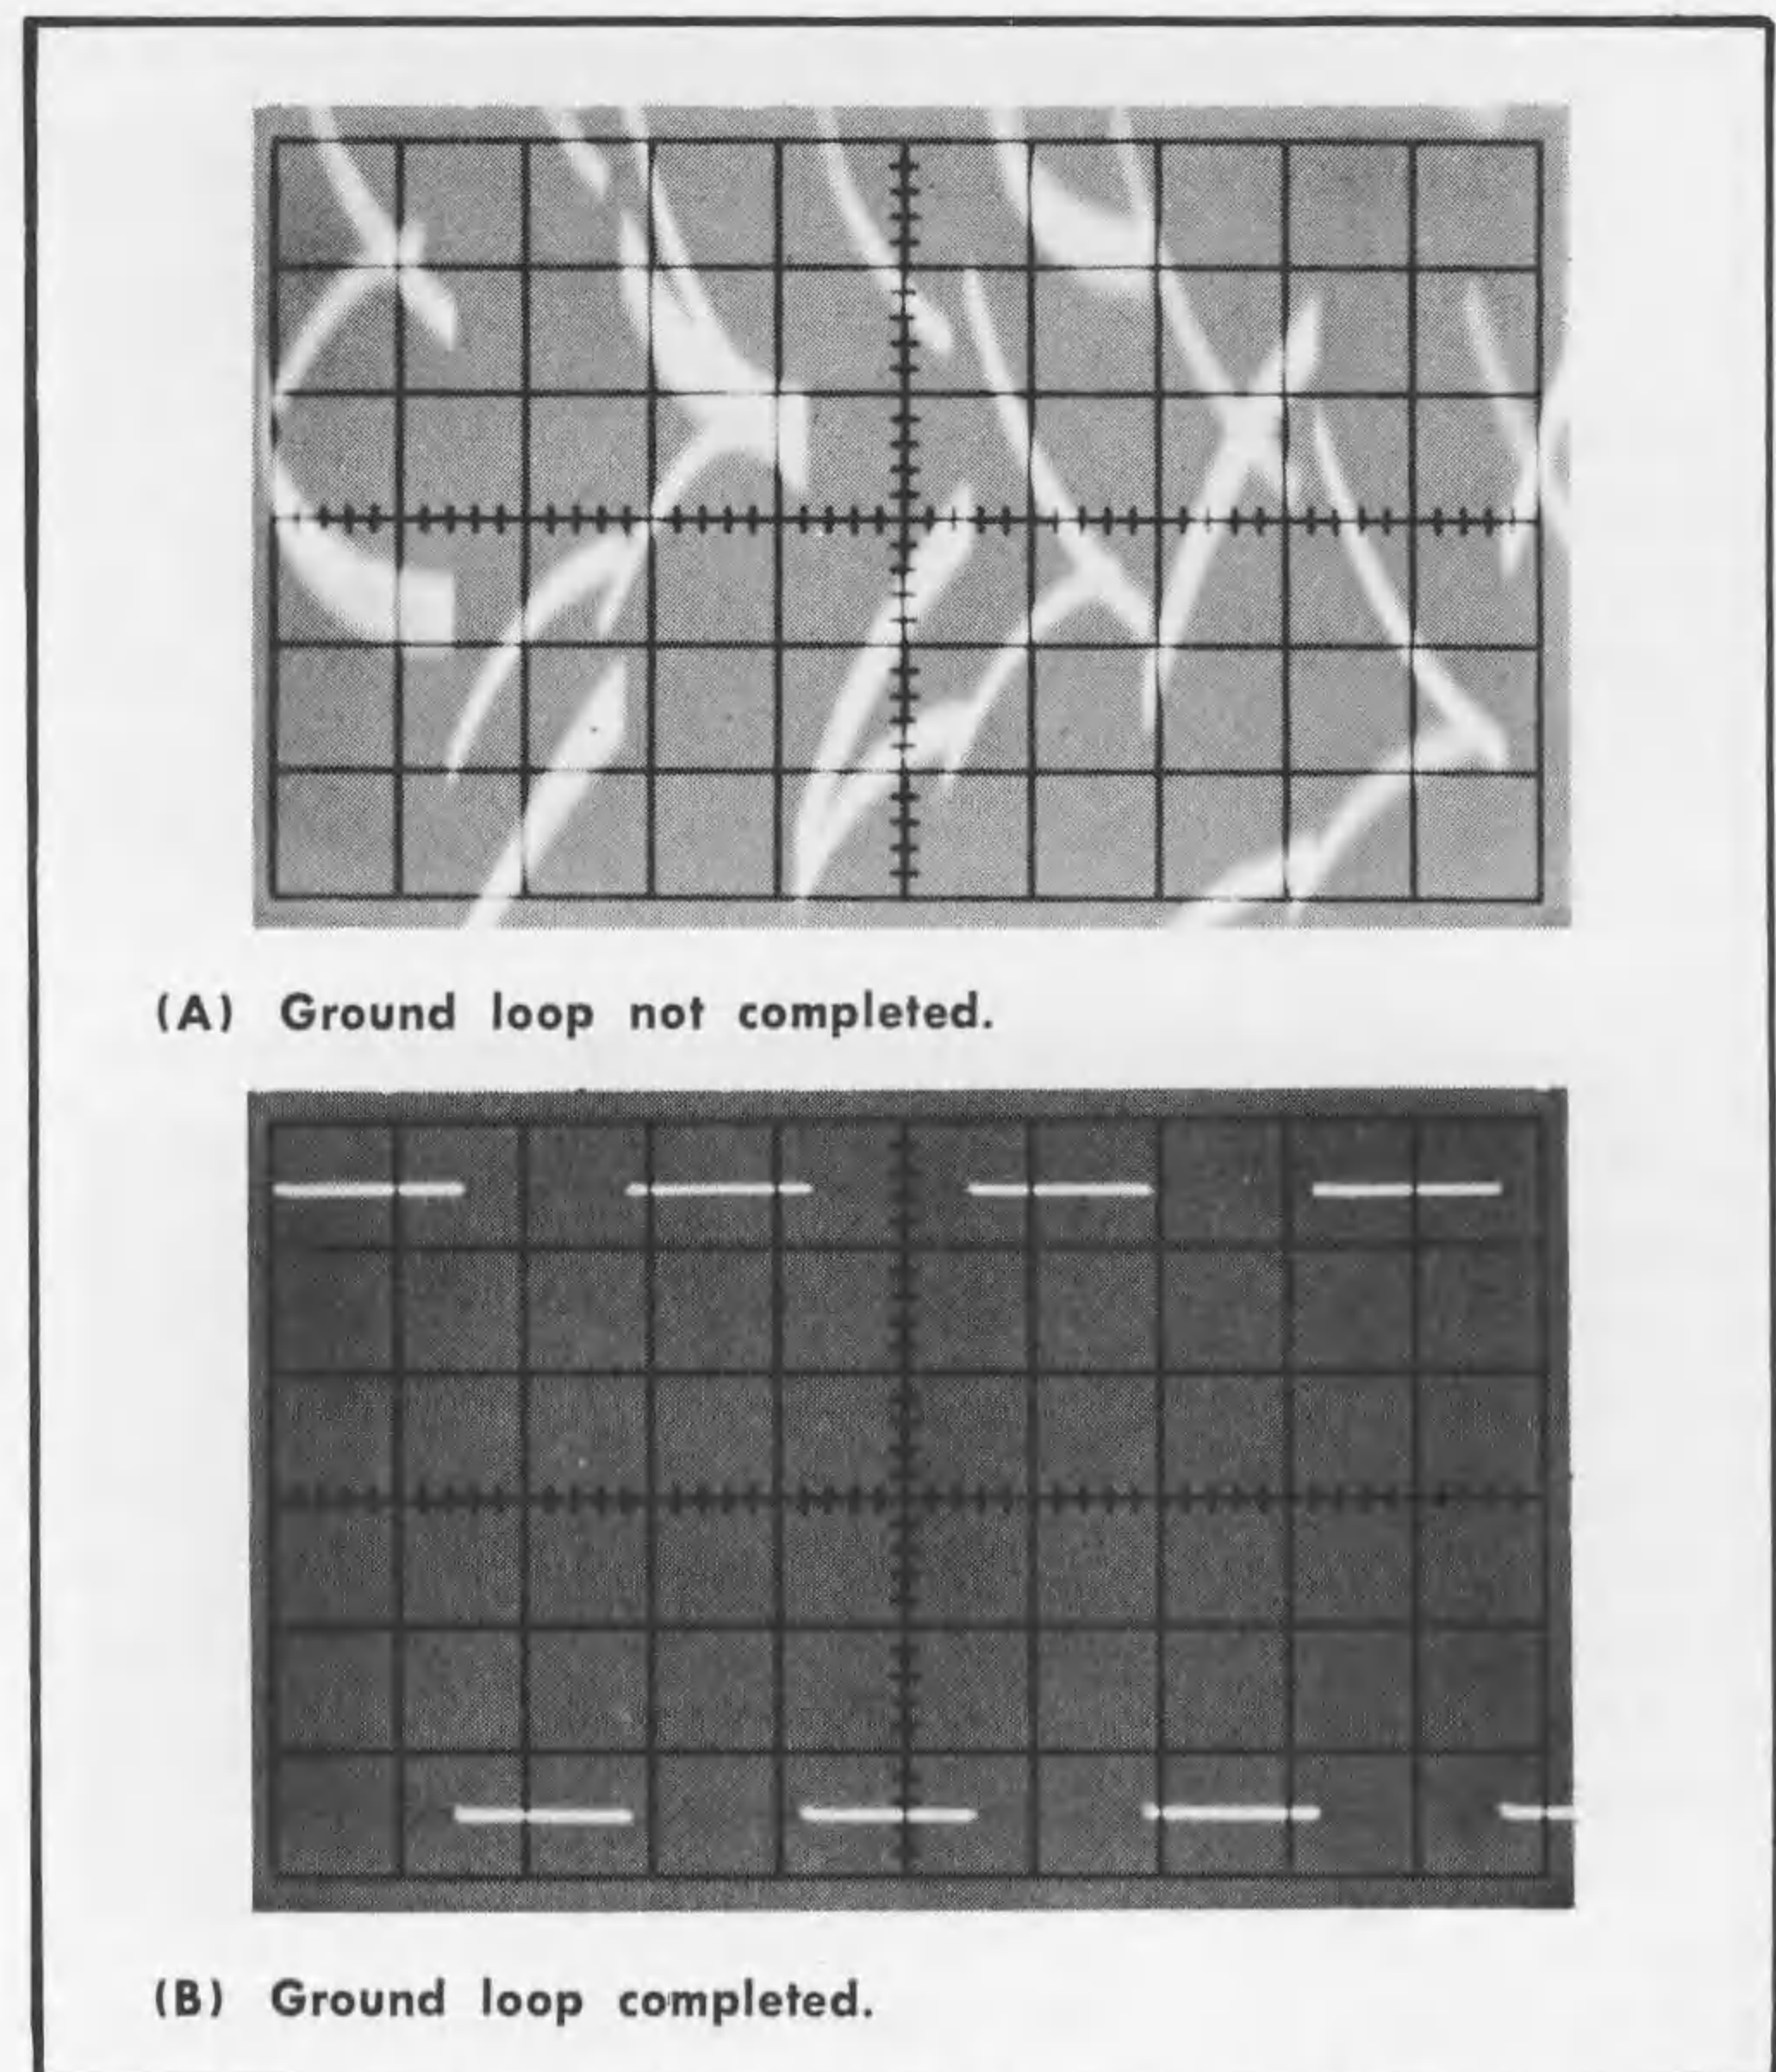

Fig. 2-11. Ground loop effect.
**Reference or ground lead.** Reliable signal observations cannot be made unless both the oscilloscope and the unit under test are connected by a reference (ground) lead in addition to the signal lead. See Fig. 2-11. Most AC-operated equipment has a common ground supplied by the AC power source circuitry. This is true of the Type 324 Oscilloscope whenever the 3-wire AC line cord is connected to the oscilloscope and a grounded AC source. During internal battery or external DC operation, a reference (ground) lead must be externally connected between the oscilloscope and the equipment under test.